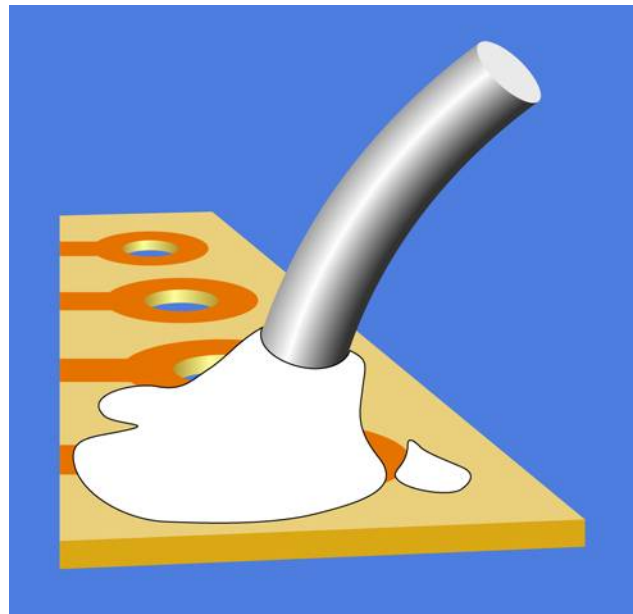

Figure 4-53 If you use too much solder, it will tend to end up in places where you don't want it.
1. Too much solder. Before you know it, solder creeps across the board, touches the next copper trace, and sticks to it, as depicted in Figure 4-53. When this happens, you can either try to suck it up with a desoldering kit, or carve it away with a knife. Personally I prefer to